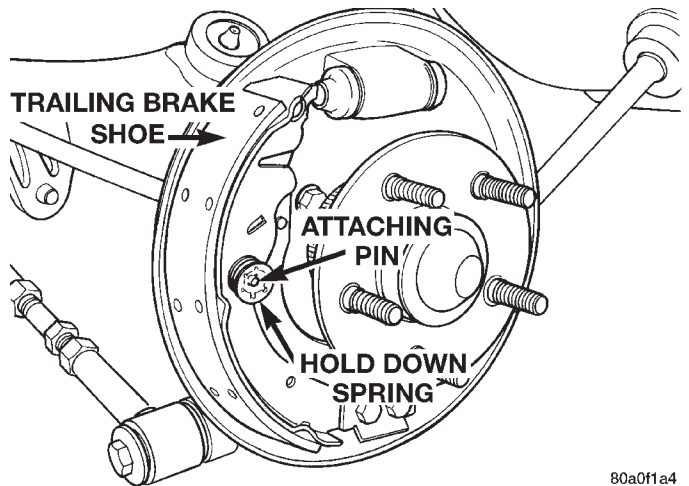

Fig. 66 Hold Down Spring And Pin
(11) Remove the hold down spring and attaching pin (Fig. 66) from the trailing brake shoe.
(4) Install the trailing brake shoe on the brake support plate. Install the attaching pin and hold down spring for the trailing brake shoe (Fig. 66).